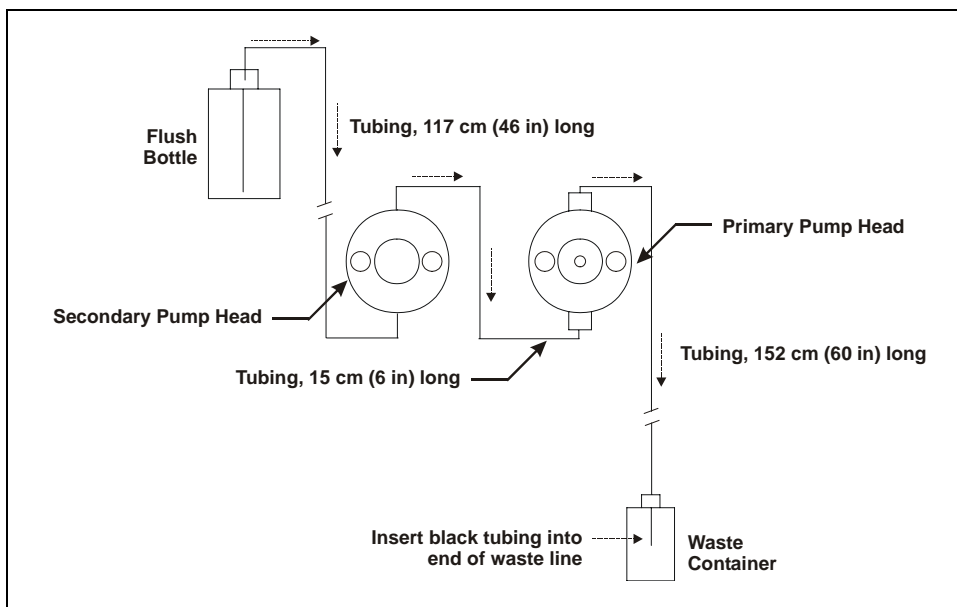

Figure 49. Piston Seal Wash Flow Schematic
4. Install the tubing as follows (see Figure 48 and Figure 49):